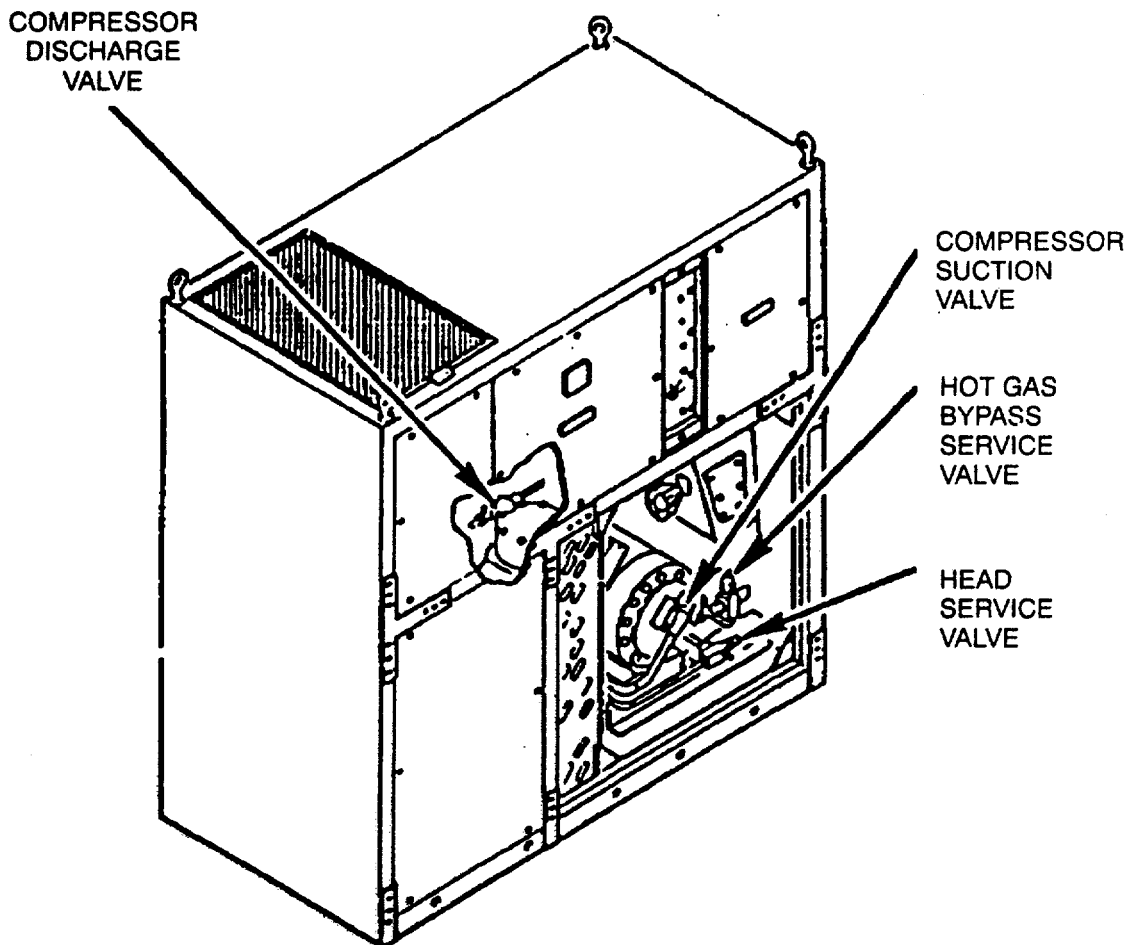

Figure 5-10. Pump Down
5. Crack suction valve so gauge will function (see Figure 5-10).